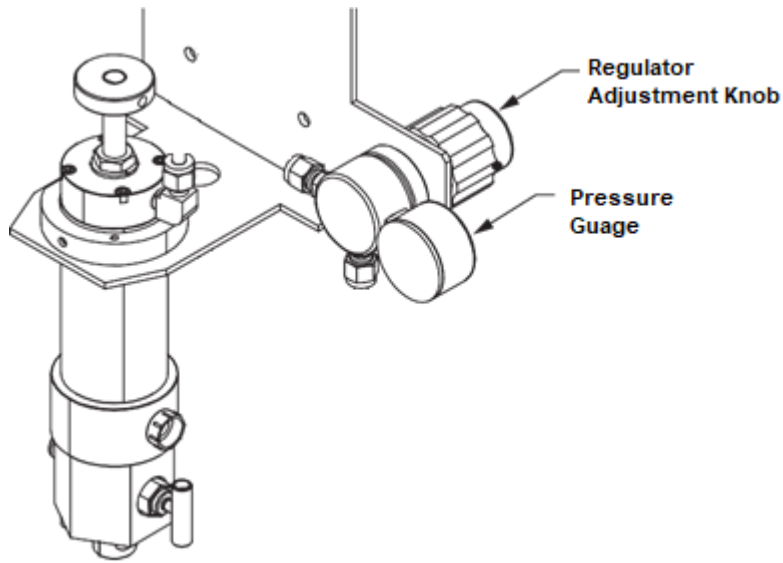

Figure 4: Regulator adjustment control
6. Adjust the regulator adjustment knob until the pressure gauge displays the appropriate pump actuation pressure for the application, as shown in Figure 4.